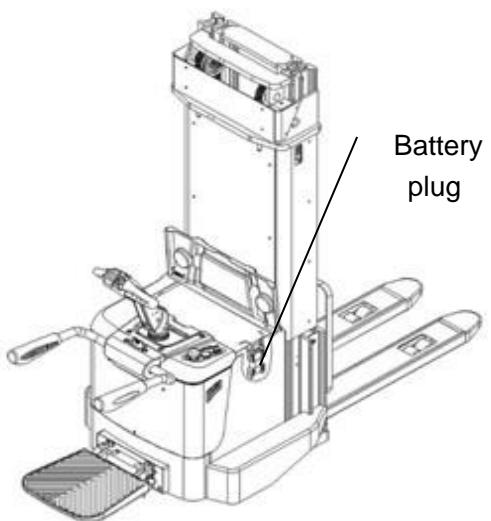

Fig.14: Battery charging
Park the truck securely and switch off the stacker with the key (13) and activate the emergency button (11). Open the battery cover and pull out the hinge. Then remove the battery cover, unscrew and remove the battery fixing plate, pull out the battery plug (Fig.14), and take the batteries out with a crane. The installation is in the reverse order of the removal. Please connect the positive terminals firstly. Otherwise the truck could be damaged.